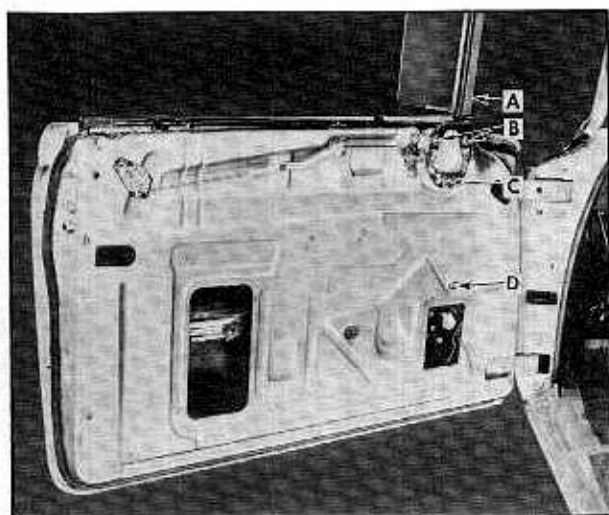

Fig. 3-31 Wing Assembly Alignment
2. To adjust the assembly in or out, remove the garnish molding, door trim pad, and loosen two bolts and adjusting stud nuts. Fig. 3-31. Turn studs in or out with a screwdriver to obtain desired alignment.
3. Remove two bolts "B" and adjusting stud nut "C", shown in Fig. 3-31.
2. Loosen set screw at upper pivot and remove attaching screws "B" and "C" Fig. 3-31. Note relative position of all washers so that they can be reinstalled properly.
(33) Front Door Window Glass Adjustment